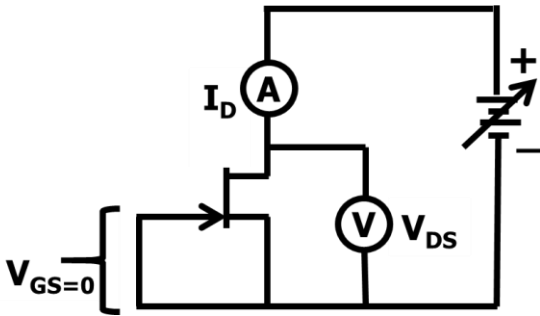

Fig 4.41
Like the output characteristics of BJT, we can plot output characteristics (Drain Characteristics) of JFET also. Refer fig 4.41
- Pinch off region:** When V_{DS} approaches 4.5V (in our example) (Point A in figure 4.41) has a reverse bias equal to pinch off voltage. The depletion layers from both Gates touch each other beyond this. An equilibrium (saturation) is reached and I_D does not increase even if V_{DS} is increased. This saturation current is